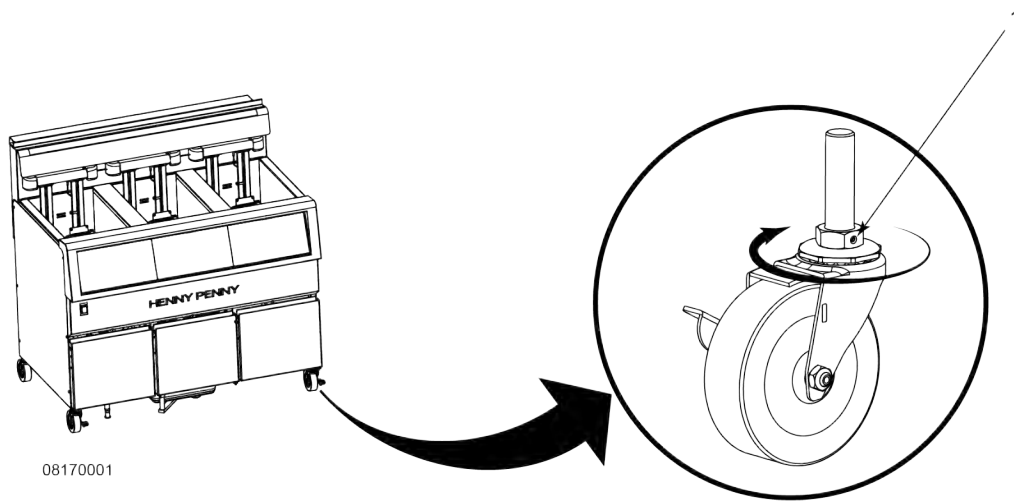

Figure 2-3 Caster Adjustment
- 1) Loosen the hex key set screw (1) for the caster that needs to be adjusted, see Figure 2-3 Caster Adjustment, page 8.
- 3) Check the level (1) on top of the fryer to ensure the caster has been adjusted properly.